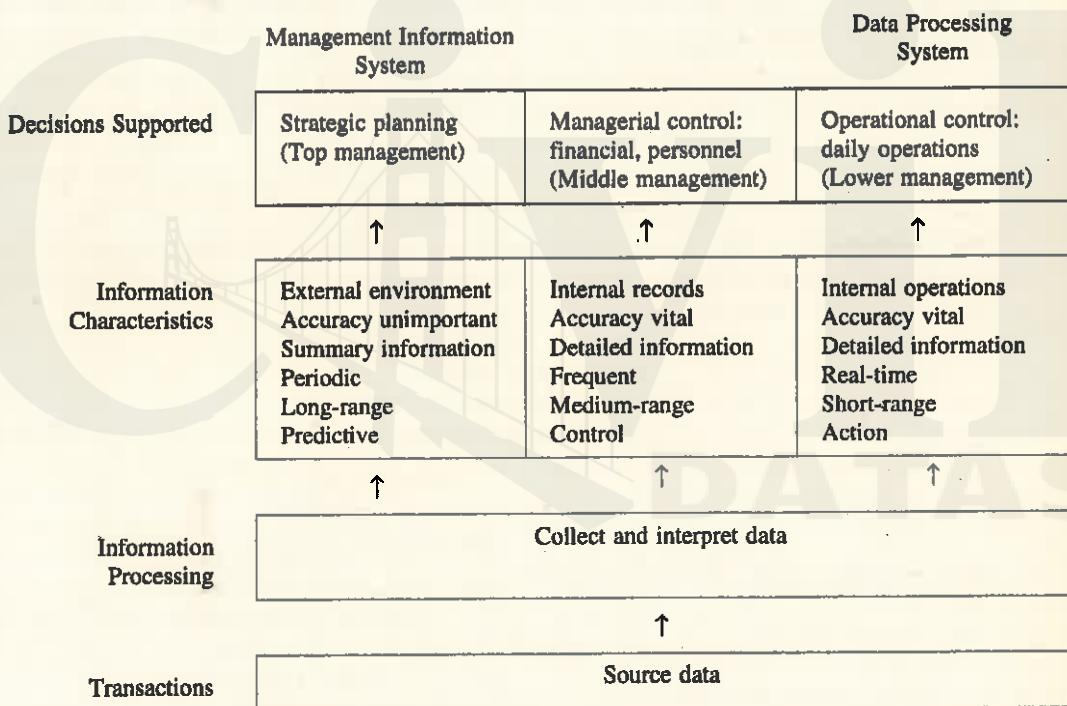

Fig. 39.2 A comparison of data processing and management information systems.
A data processing system is not an MIS. Two major distinctions between these types of systems are : (1) the characteristics of the information they require, and (2) the decisions that are made, based on this information. Fig. 39.2 summarises these differences.